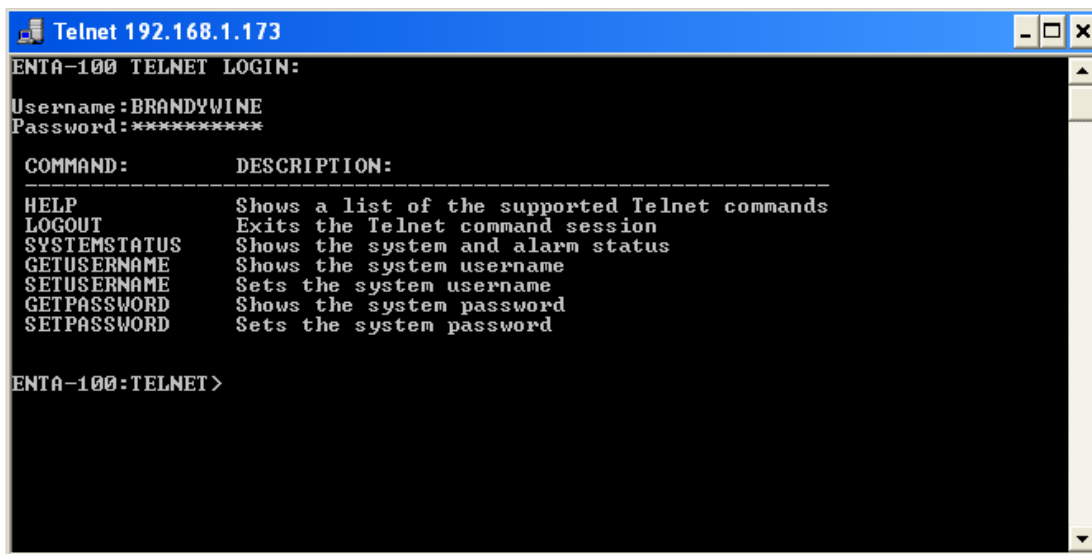

Figure 22 Telnet Interface
4. Figure 22 will be displayed. Enter the username, press <Enter>, enter the password, and press <Enter>. The TELNET session has now been established.